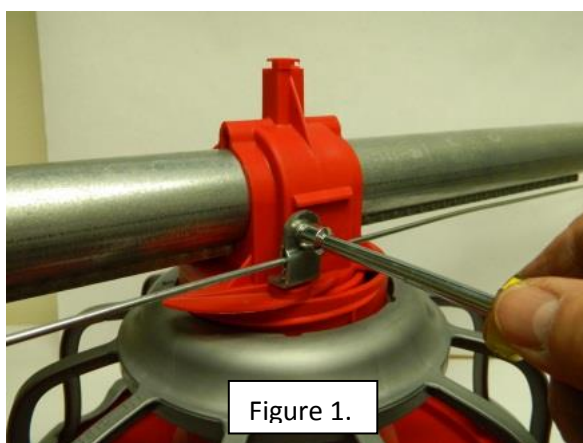

Figure 1.
2. Remove Pivot Clip Screw to disengage the Pivot Assembly from the Actuator Wire. **(Figure 1)**. If the Pivot Clip is corroded, this may require holding the Pivot Clip with pliers. Discard the old Screw and Pivot Clip.